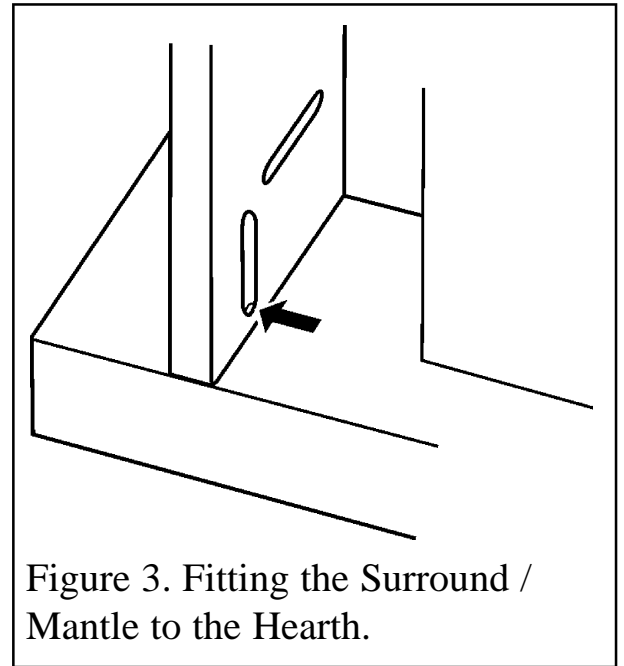

Figure 3. Fitting the Surround / Mantle to the Hearth.
- Lay the hearth (B) on the floor. Stand the surround (A) on top of the hearth. Position the surround so that it is central to the hearth and the rear of the surround legs are flush with the back of the hearth.
- Secure the surround to the hearth using two screws (E) through the holes in the surround sides (See figure 3).
- Carefully move the Surround / Mantle and Back Panel into place. Mark the positions of the bracket holes on the wall. Move the assembly aside and drill suitable sized holes. Insert the wall plugs (D). Position the Surround / Mantle and Back Panel into position and secure using two screws (E) as shown in figure 3.